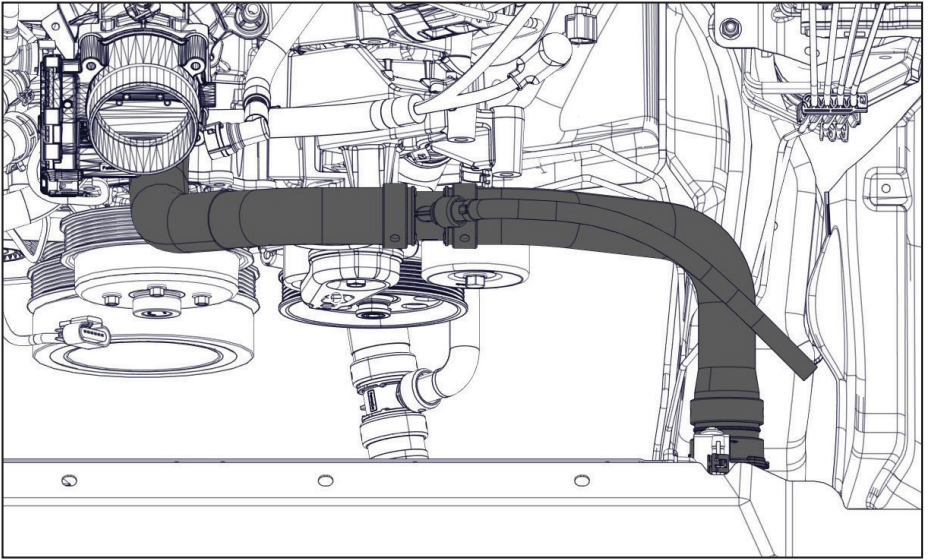

Figure 5 — Removing upper coolant hose
- ☐ Remove the upper coolant hose assembly (Figure 5).